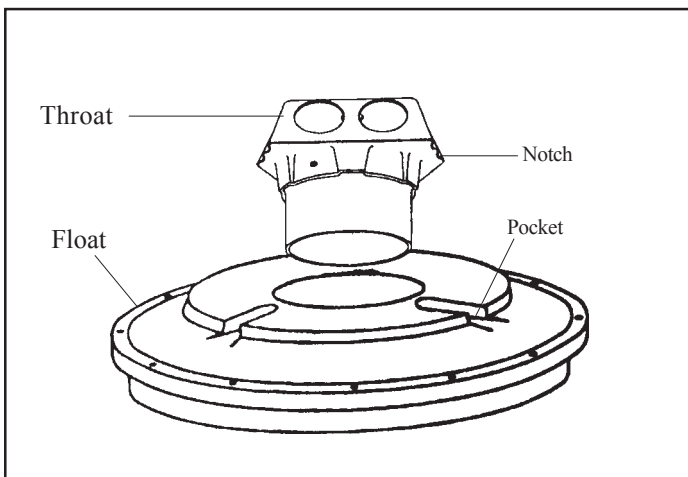

Figure 7
A. Installing the Sunburst throat - see Figure 7.
1. Lay the aerator float down as shown in Figure 7. Insert the Sunburst throat into the float, aligning the notches of the throat with the pockets of the float. Press the throat firmly into place.